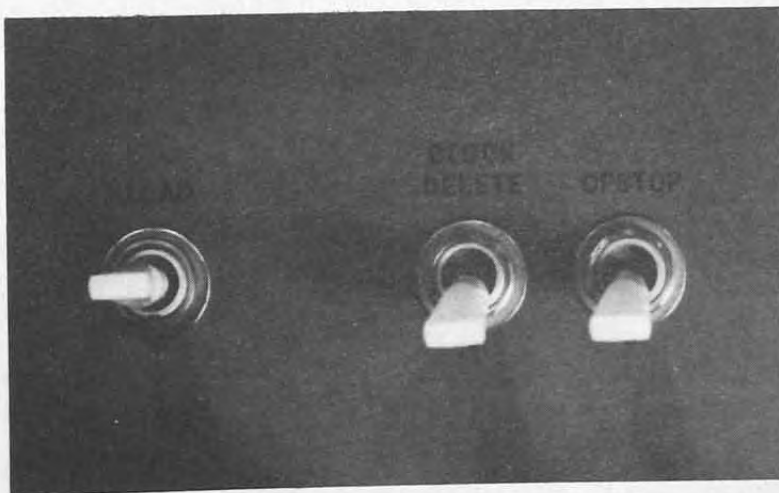

Figure 2-5. Special Operations Panel
2.6 SPECIAL OPERATIONS PANEL (Figure 2-5)